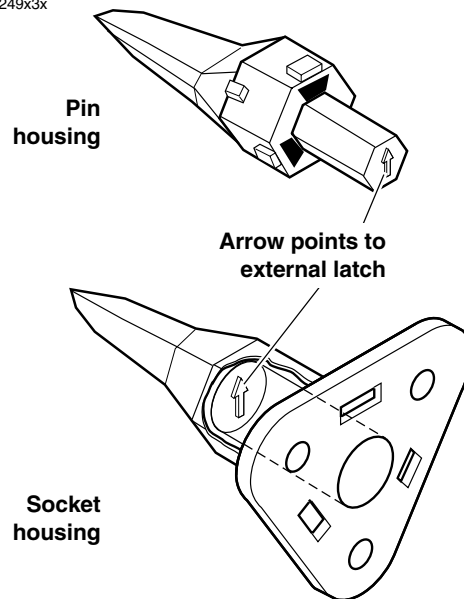

Figure B-9. Depress Terminal Latches/Back Out Pins
- While rectangular wedges do not require a special orientation, the conical secondary locking wedge of the 3-pin connector must be installed with the arrow pointing toward the external latch. See Figure B-9.